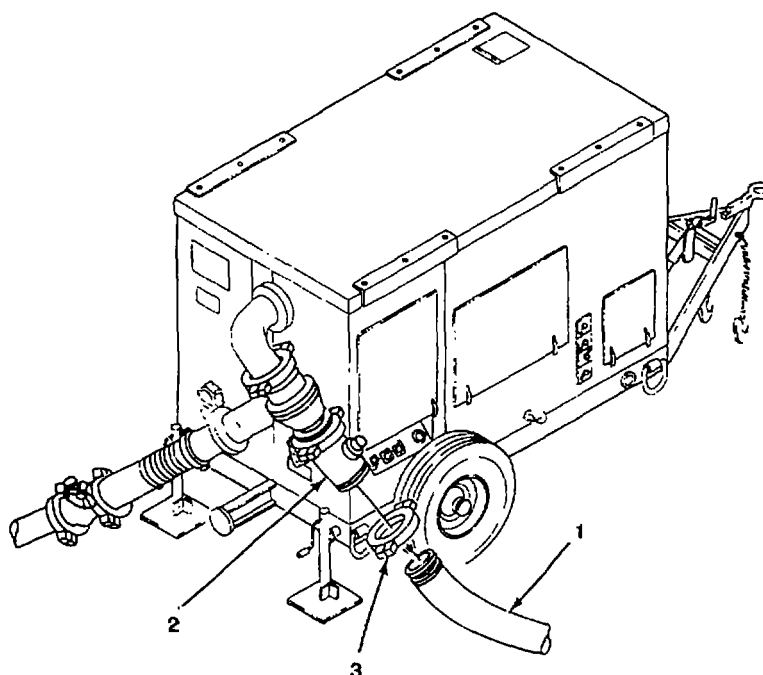

Figure 2-8. Connecting 10-Mile Segment to Lead Pumping Station
- (g) Connect leading end of first hose (1, Figure 2-8) to relief valve (2) on discharge of lead pumping station. Attach hose with 6-inch boltless coupling (3) (para. 2-8.b.).